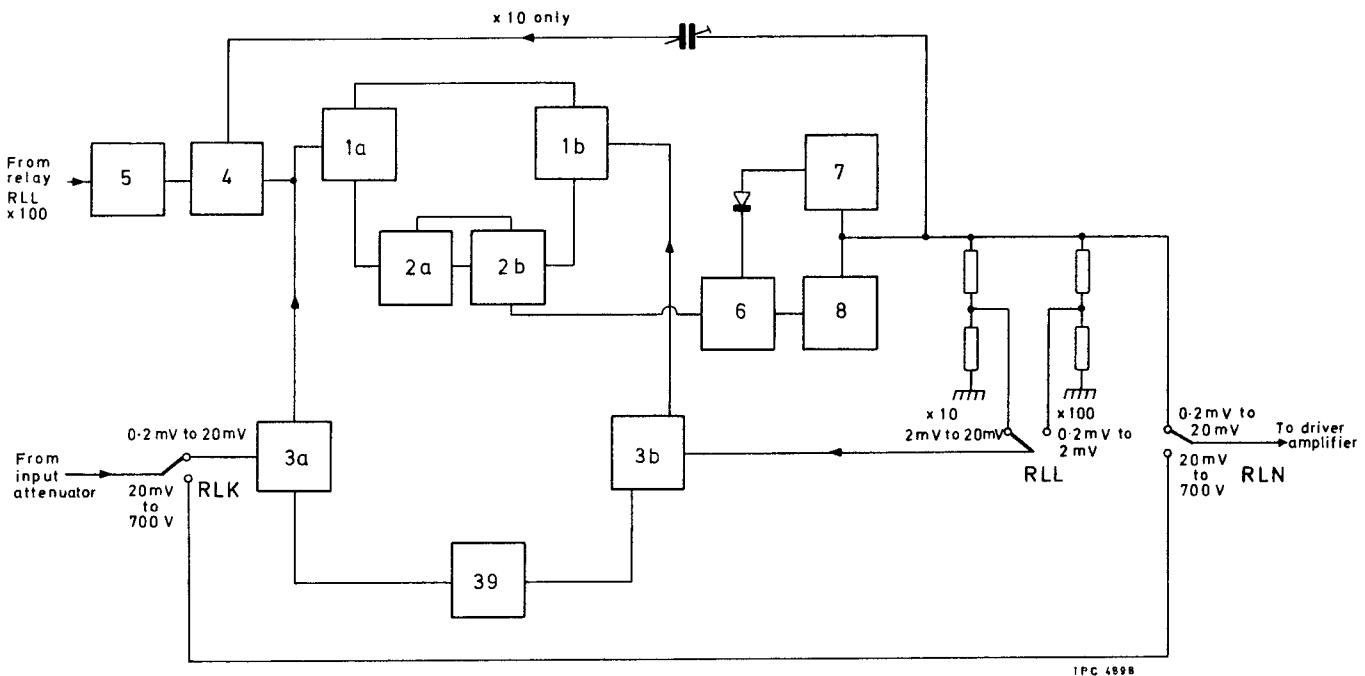
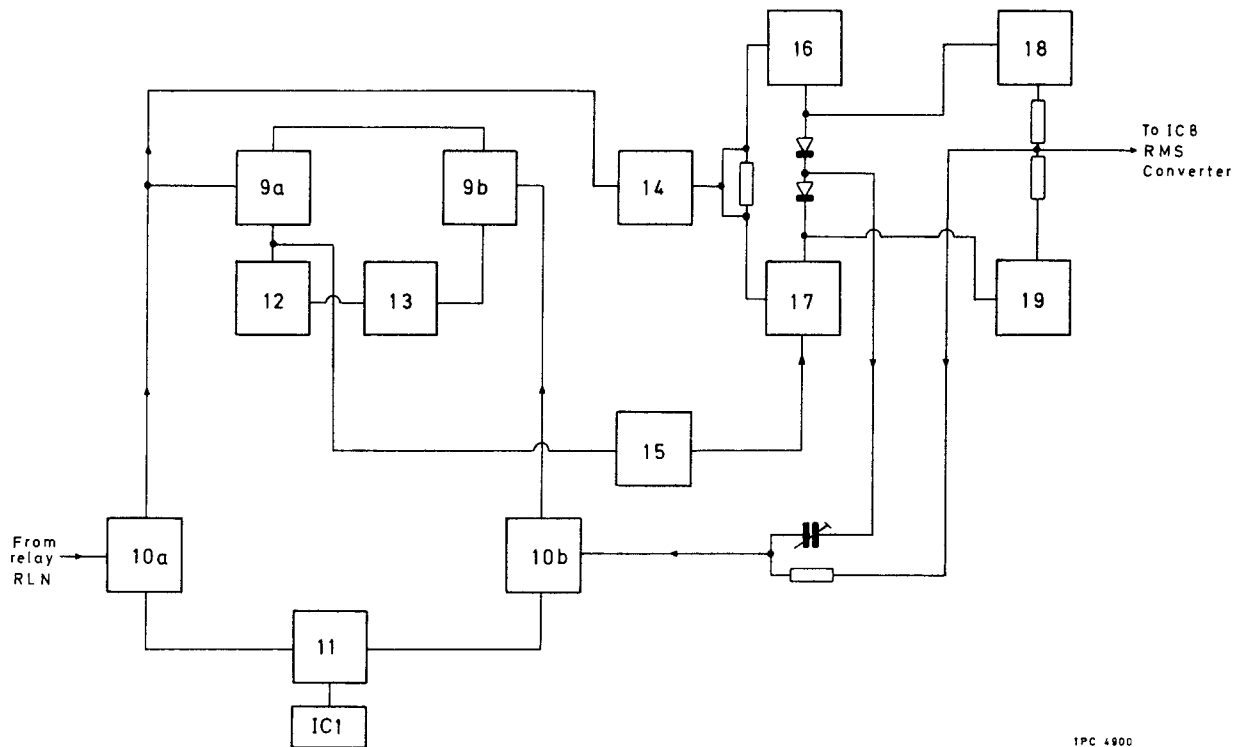

Fig. 2 Pre-amplifier block diagram
Fig. 3 Driver amplifier block diagram
Circuit diagram : Chap. 7, Fig. 3
10. Fig. 2 shows the key components of the pre-amplifier and their inter-connections in block diagram form. Transistor circuits are represented by blocks without the prefix TR, i.e. [5] = TR5. This representation also applies in Figs. 3 to 6.
16. Fig. 3 shows the key components of the driver amplifier and their interconnections in block diagram form.